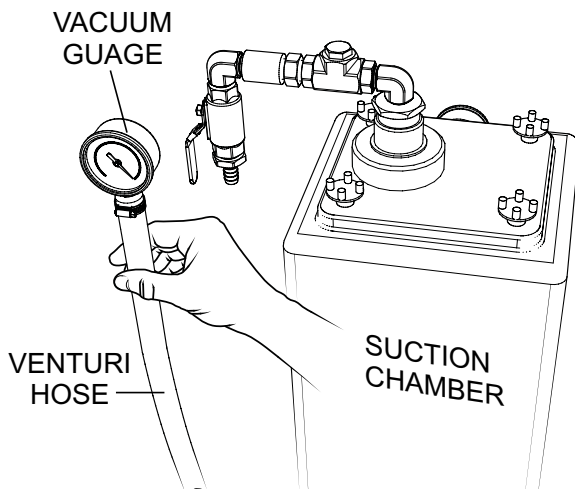

Figure 43. Vacuum Gauge
2. Attach a 0 to 30 inch vacuum gauge to the free end of the venturi hose as shown in Figure 43.